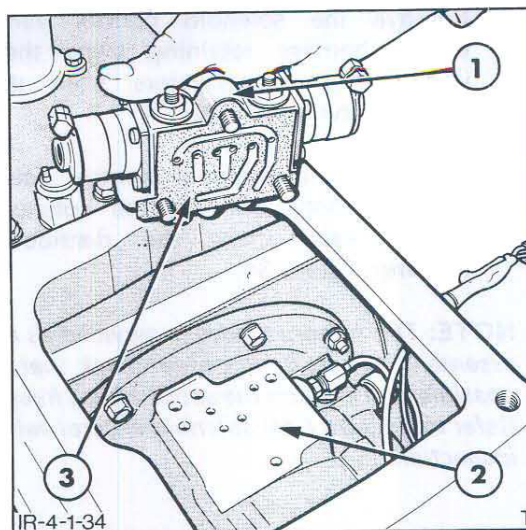

Figure 34
4. Withdraw the solenoid control valve retaining bolts and lift the solenoid control valve from the distributor housing, Figure 34.